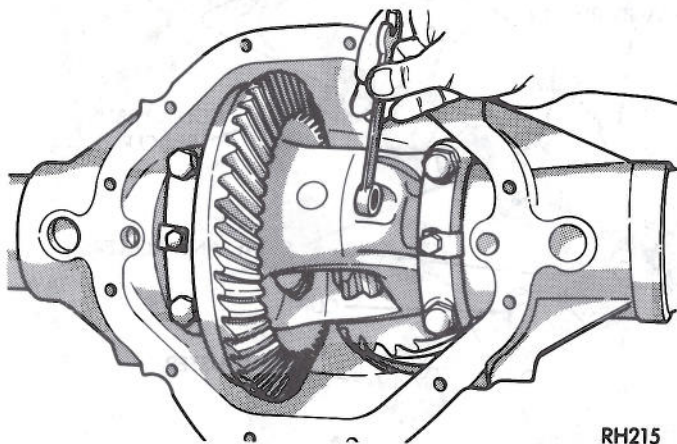

Fig. 3—Removal or Installation of Differential Pinion Shaft Lock Pin
(3) Loosen housing cover and drain lubricant from rear axle and proceed to remove cover.
(4) Turn differential case to make differential pinion shaft lock screw accessible and remove lock screw and pinion shaft (Fig. 3).